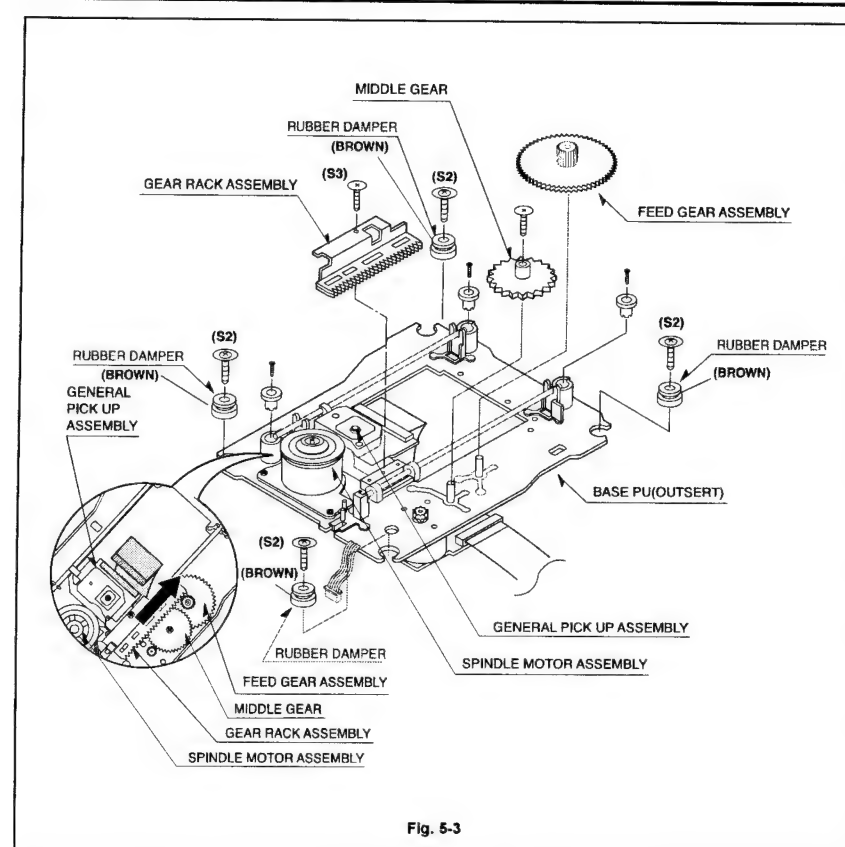

Fig. 5-3
3. Base Assembly Sled (Fig. 5-3)
4. Rubber Rear (Fig. 5-3)